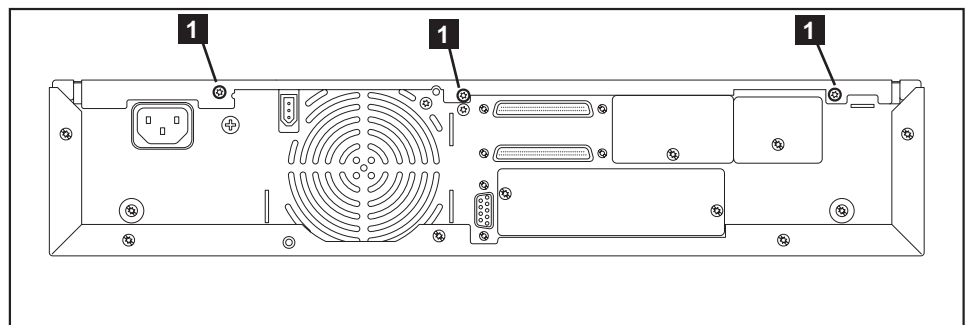

Figure 158. Location of screws on rear panel for drive removal
- b. Remove the three screws from the rear panel ( **1** in Figure 158).
- d. Remove the 2 screws attaching the bottom cover to the sides of the Autoloader ( **2** in Figure 158 on page 269).